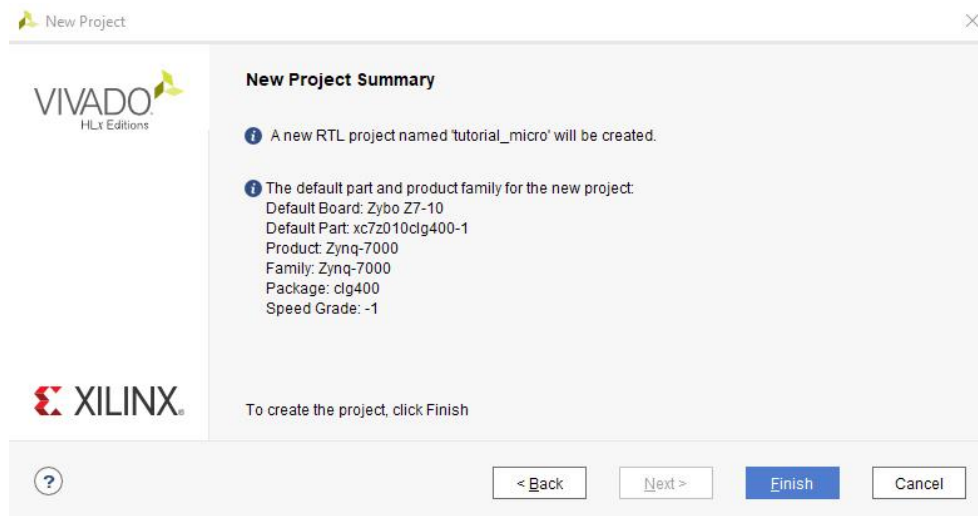

Figure 4
9. Check if everything is correct (compare with Figure 4) and then click **Finish**